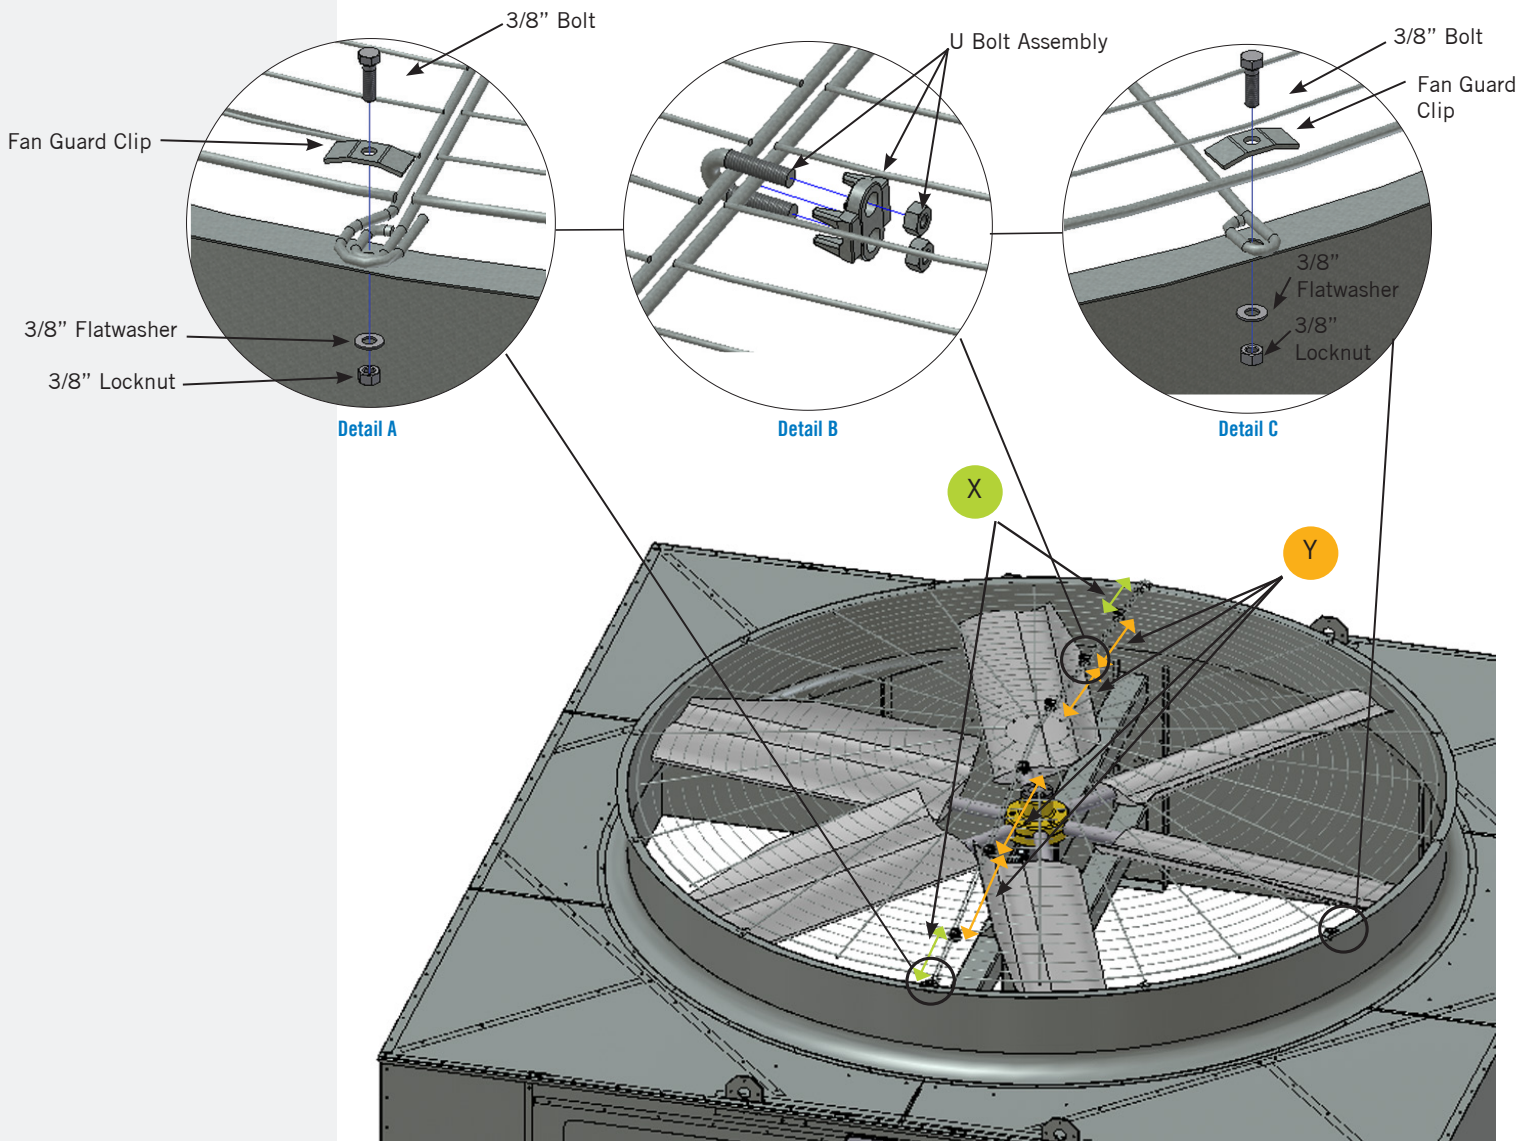

Figure 6. Two-Piece Fan Guard Assembly
1. Using six U-bolt assemblies, fasten the two halves of the fan guard together as illustrated in **Figure 6, Detail B**. Locate the U-bolt assemblies along the seam between the two guard halves per the X and Y dimension provided in **Table 4**, which are based on the diameter of the supplied fan.
3. Mount the fan guard to the unit as illustrated in **Figure 6, Detail A** for the ends of the seam where the two guard halves join together, and **Detail C** for all other locations around the fan guard perimeter.